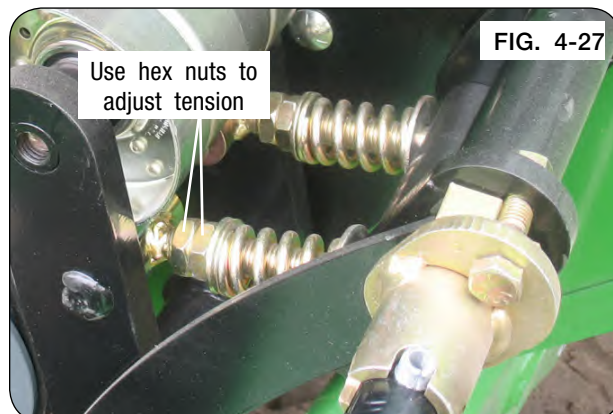

FIG. 4-27
5. Belt tension is adjusted with hex nuts below the spring. All belt tension **MUST** be released from linkage. Loosen outer hex nut and adjust inner nut to establish a  $3 \frac{1}{16}$ " pre-load dimension between the heavy washers. Tighten the outer hex nut against inner nut to lock position. (FIG. 4-27)